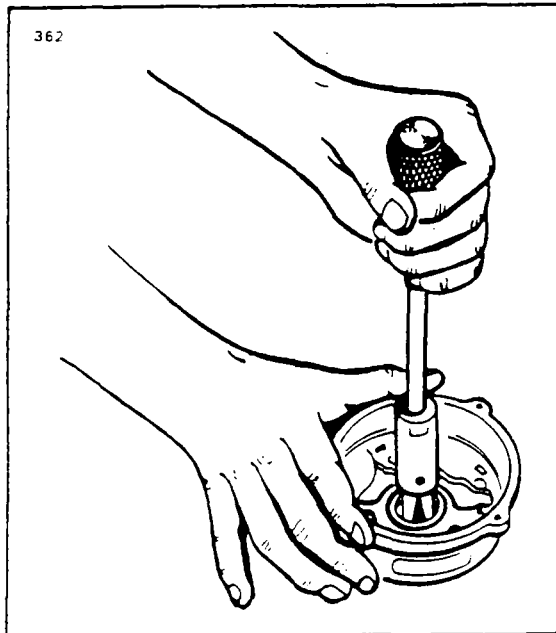

Figure 10-24b. Removal of Slip Ring End Bearing
- e. To remove the slip ring end bearing and grease seal, it will be necessary to have a hook type or impact type bearing puller as shown in Figure 10-24b. Do not remove the bearing unless replacement is necessary.